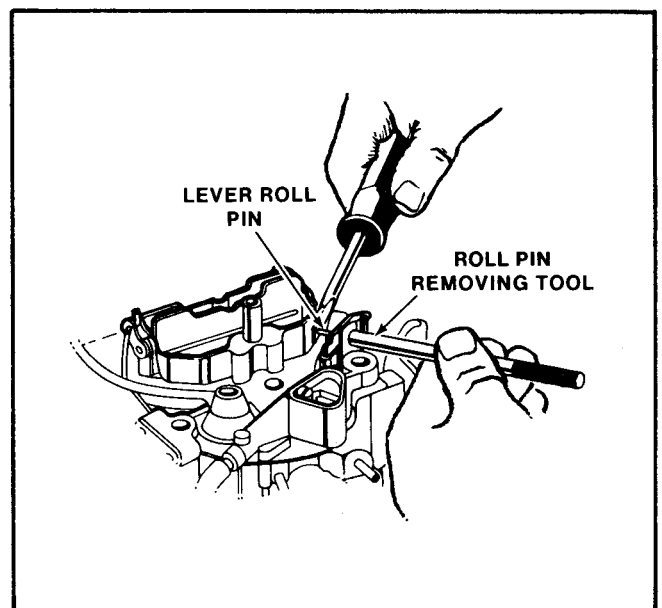

Figure 71 Installing Pump Lever
8. Install (2) secondary metering rods into the secondary metering rod holder (upper ends of rods point toward each other). Install secondary metering rod holder (with rods positioned in secondary metering discs) onto air valve cam follower. Install retaining screw and tighten securely. Work air valves up and down several times to make sure they are free in all positions.
9. Connect upper end of pump rod to pump lever. If two hole pump lever is used, make sure pump rod is in specified hole in lever, noted at disassembly (or see specifications). Place pump lever on air horn casting — aligning hole in pump lever with hole in horn casting. Using screwdriver, push pump lever roll pin back through casting until end of pin is flush with casting bosses in air horn (Figure 71).